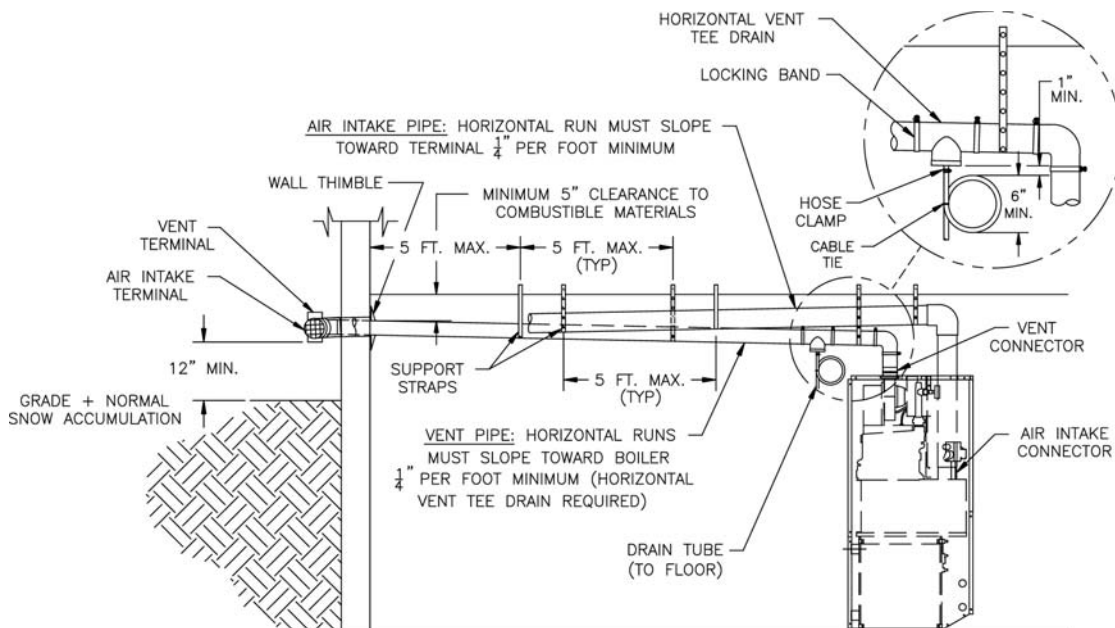

Figure 12: Alternate Horizontal Vent Installation
- b. Alternate Installation (where recommended installation is not practical): slope toward boiler. Horizontal vent drain tee (see Table 7 for part number) required. See Figure 12.